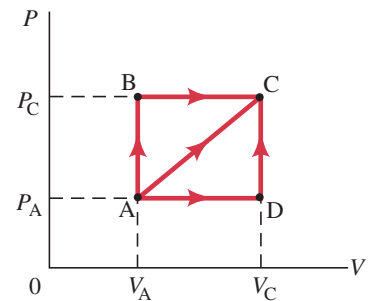

FIGURE 15–28
68. Calculate the work done by an ideal gas in going from state A to state C in Fig. 15–28 for each of the following processes: (a) ADC, (b) ABC, and (c) AC directly.